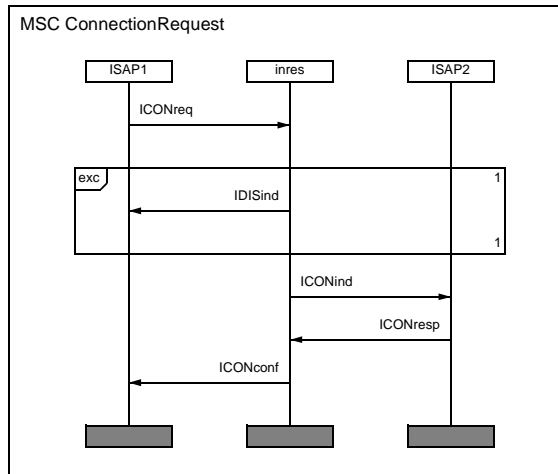

Figure 254: Test case with exception handling
- The *exception* operator (`exc`) is intended to be used for error handling. An exception expression may contain signals which prevent the test system from continuing the regular test execution. In *MSC ConnectionRequest* (Figure 254 on page 1404), the reception of signal *IDISind* immediately stops the test case. Optionally, an exception includes a sequence of signals which bring the system under test back into a stable testing state. An exception always results in an “INCONC” verdict.